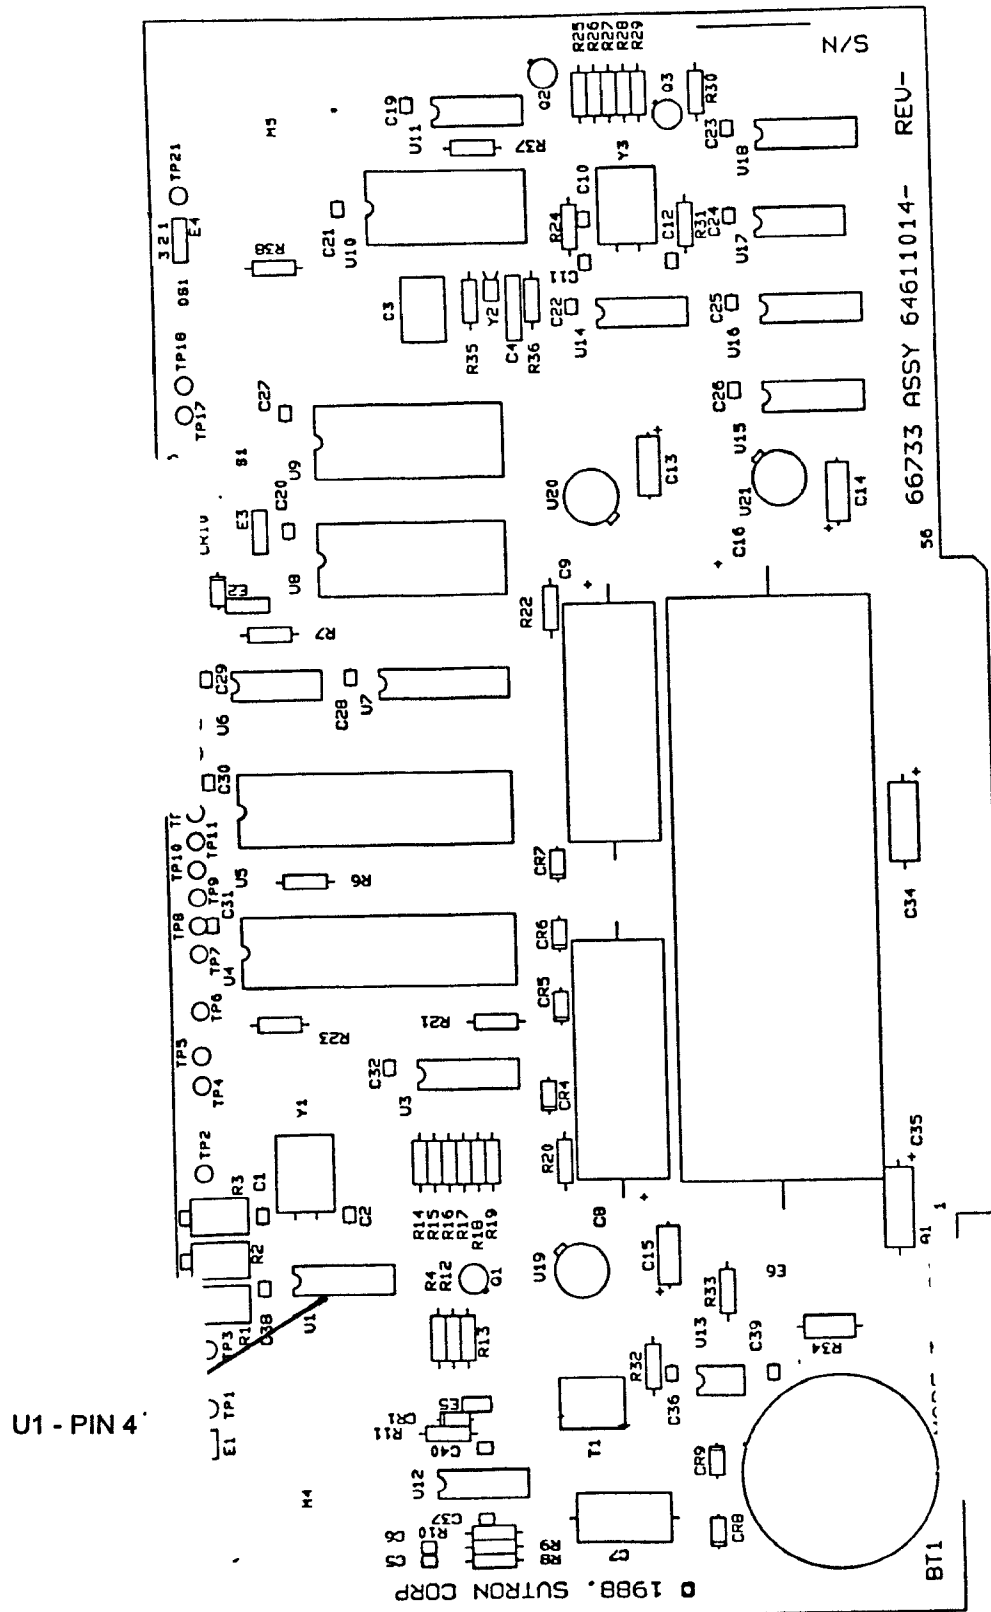

FIGURE 5-12. Microprocessor PCBA, Location of U1 pin 4.
- h. Place the channel 1 probe of the oscilloscope on IC U1 pin 4. See FIGURE 5-12 for location of U1 pin 4 on microprocessor PCBA. Change the vertical setting to .2V/DIV.